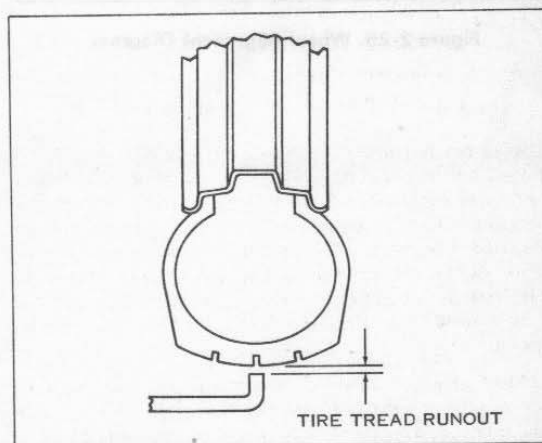

Figure 2-27. Checking Tire Radial Runout
1. Check runout by turning wheel on axle, measuring tread runout (see Figure 2-27).